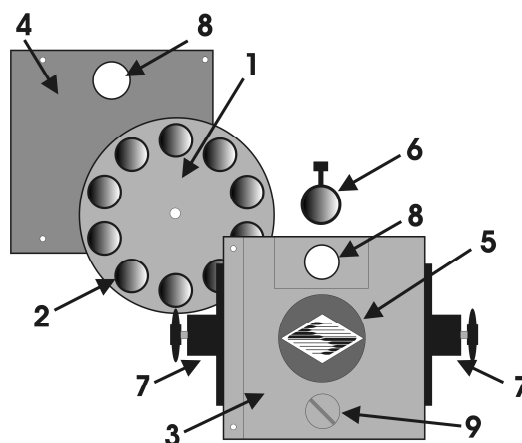
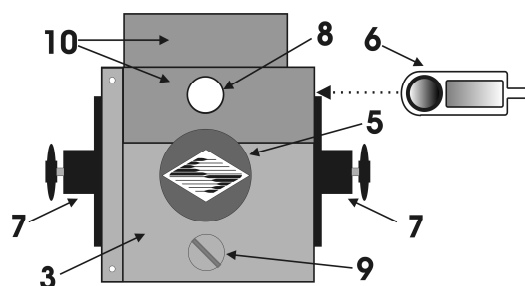

Figure 1-1. Lambda 10-3 filter wheel (without shutter).
Figure 1-2. Lambda 10-3 filter wheel housing (with shutter).
6. Drop-in filter holder (Figure 1-1) or slide-in filter holder (Figure 1-2)